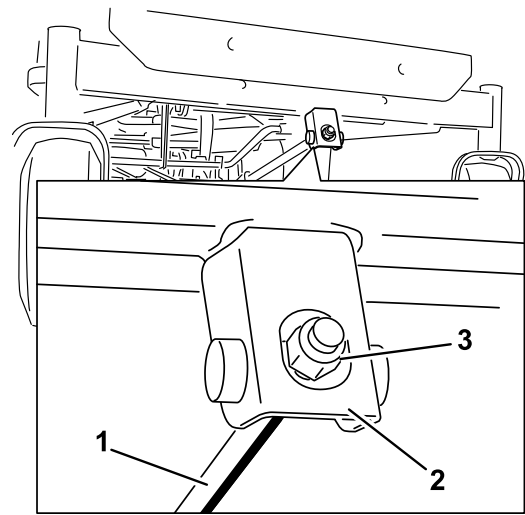

Figure 55
6. To adjust the front-to-rear blade slope, rotate the adjustment nut in the front of the mower (Figure 55).